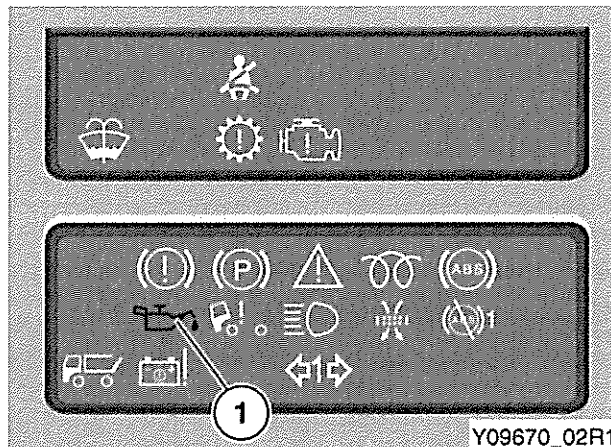

Fig 51 Oil pressure check lamp
125 Refer to Fig 51. Start and run the engine at idling speed until the oil pressure check lamp (1) goes off, then stop the engine.